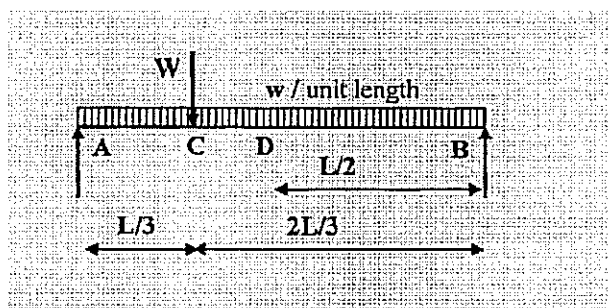

Figure Q1.
- Figure Q1 shows a beam of span L that is simply supported at A and B. The beam carries over its entire length a uniformly distributed load of w kN/m (including self weight) and a point load of W at C, which is one third of the span from A.